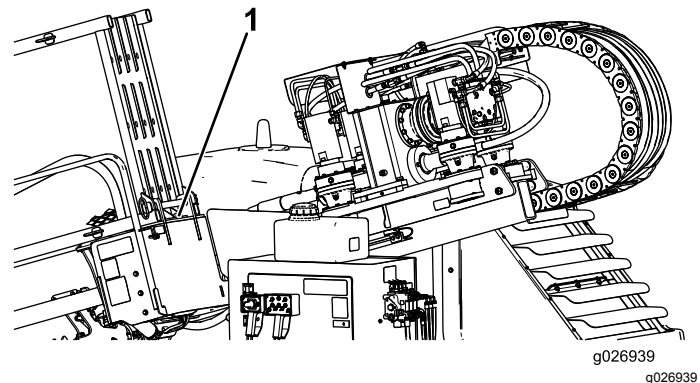

Figure 74
7. Store the cylinder lock at the rear of the pipe holder (Figure 74).